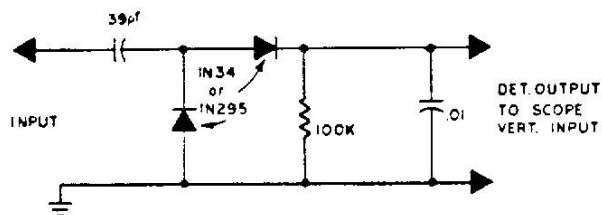

Figure 4-2. High - Impedance Detector
1. Connect a high impedance detector (Figure 4-2) to drain of FET amplifier Q105; then, connect detector output to scope vertical input. Set scope vertical attenuator to its most sensitive position.